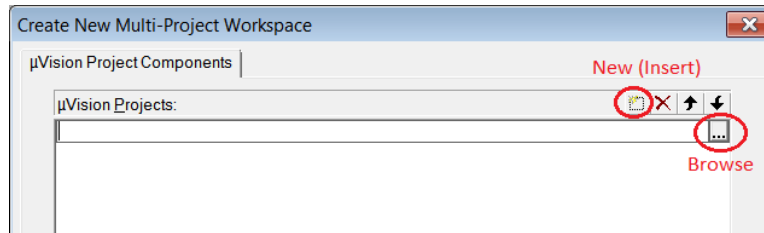
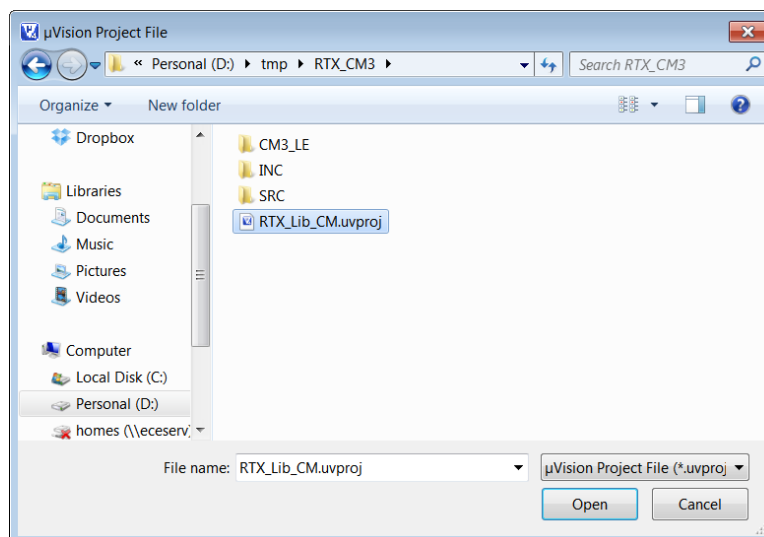

Figure 2.20: Keil IDE: Adding a μ Vision Project into Worksapce
Figure 2.21: Keil IDE: Adding RTX_CM_Lib.uvproj into Worksapce
3. A new dialogue box will pop up to ask you add μ Vision projects into the workspace. Click the New button to start adding a project and click the Browse button to select a project file (see Figure 2.20). Let's first add the RTX_CM_Lib.uvproj (see Figure 2.21). Similarly, add RTX>HelloWorld.uvproj to the workspace. Click the OK button to finish adding projects into the workspace.